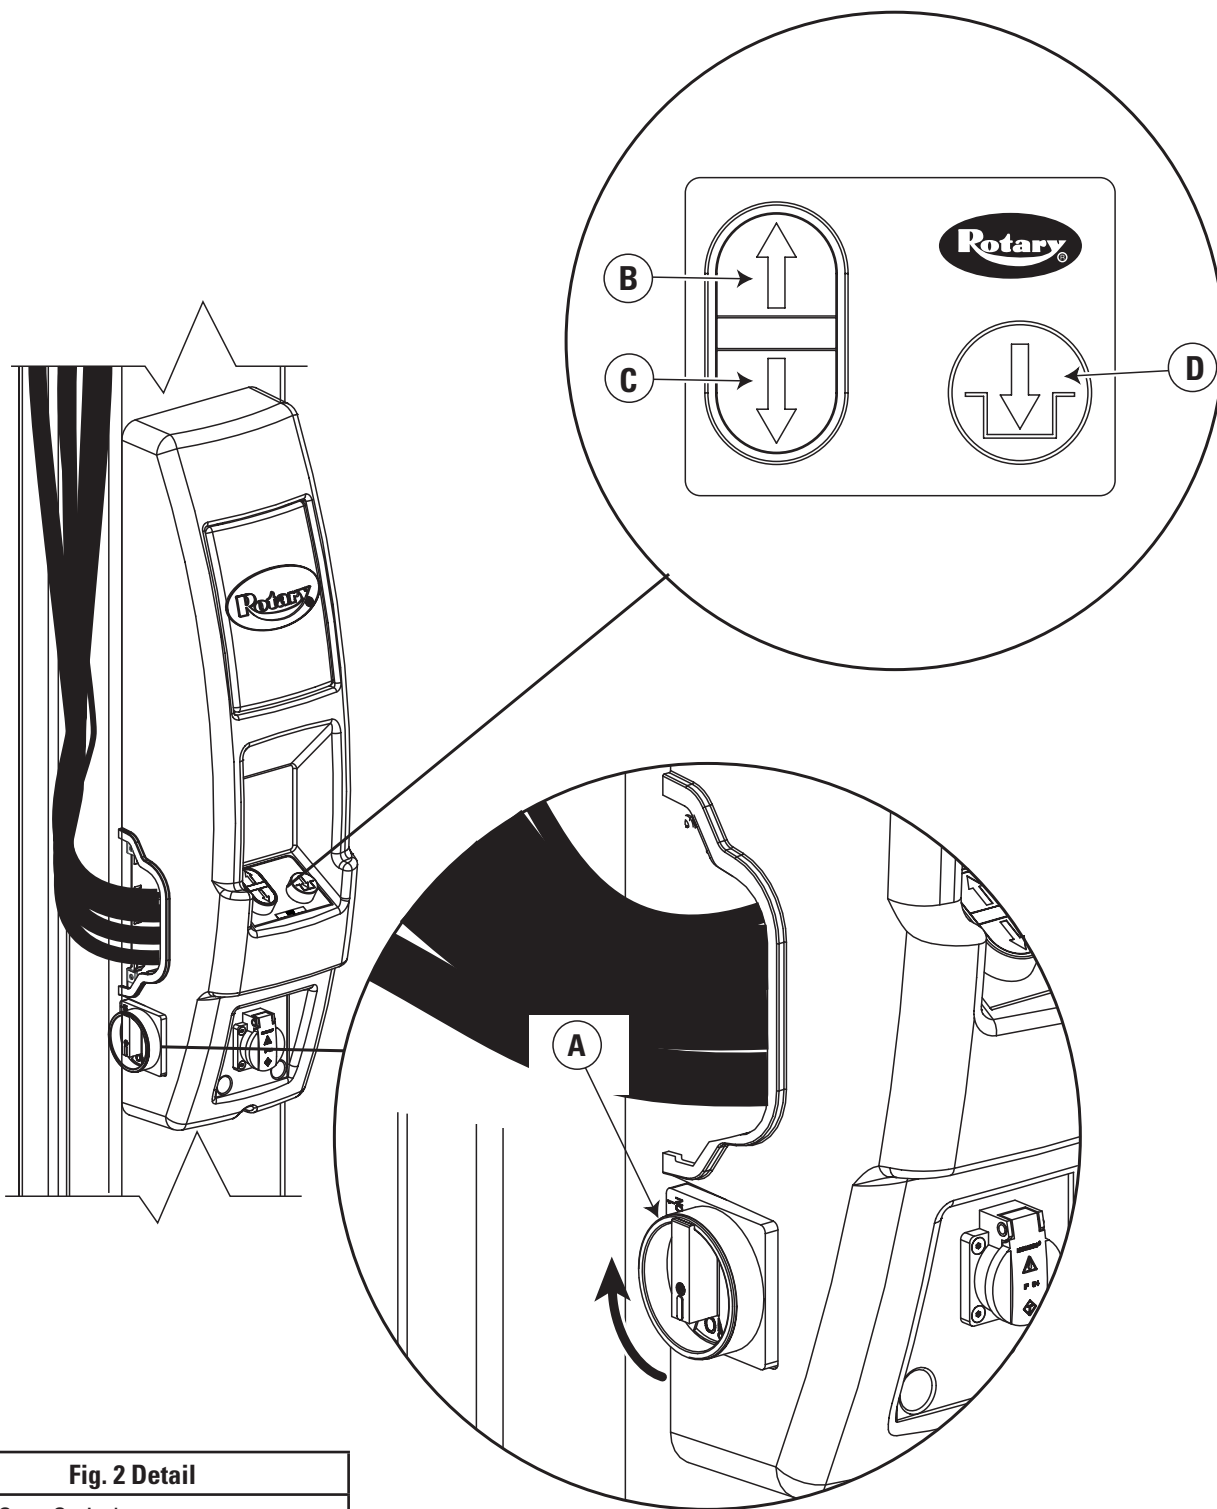

Fig. 2 Detail
For E series lifts turn both E-Stop switches "ON", Fig. 2.
- For E Series Lifts: Push  on control panel, Fig. 2.